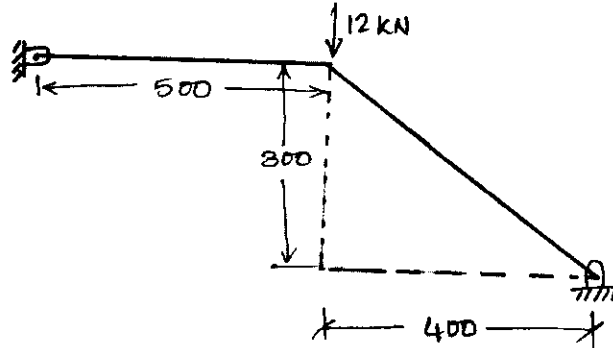

Fig. Q6 (b)
b. Find the nodal displacement, stress and reaction of truss element shown in Fig. Q6 (b). Take $E = 70 \text{ GPa}$, $\text{Area} = 200 \text{ mm}^2$. (12 Marks)